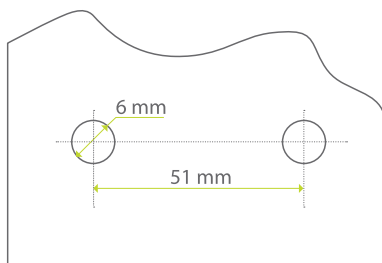

Fig. 5
1. Drill two same holes in wall and strictly follow the dimension as indicated in the fig.5.